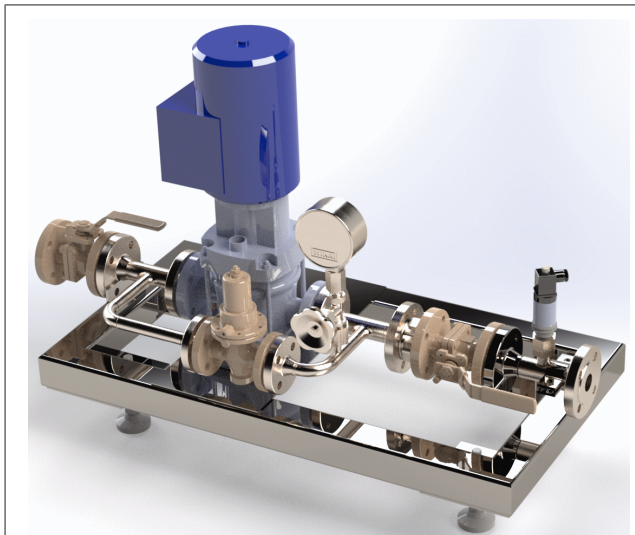

Fig. 1: Type 7111-1 Pump Assembly
- **Type 7111-1** (Fig. 1): pressure pump, adjustable Type 44-6 B Excess Pressure Valve, stable stainless steel skid, stainless steel piping